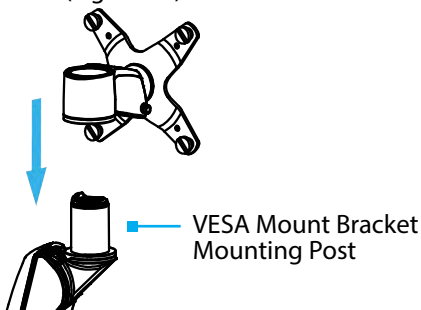

Figure 18
3. Slide the **VESA Mount Bracket** onto the **VESA Mount Bracket Mounting Post**. (Figure 18)